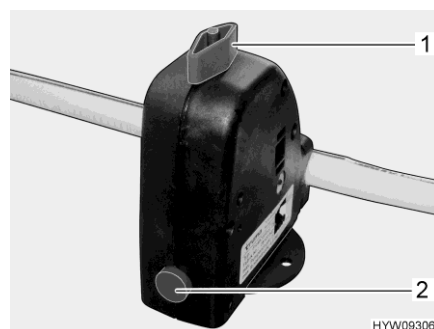

Fig. 206 Safety/drainage valve (Truma)
- Close the safety/drainage valve (Truma). Turn the knob (Fig. 206,1) perpendicular to the safety/drainage valve and push the push button (Fig. 206,2) in.